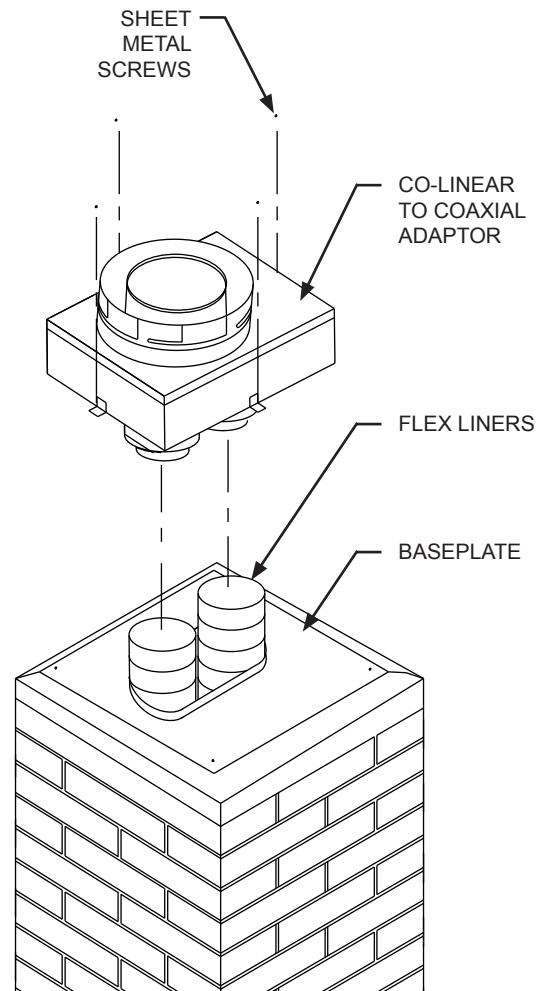

FIG. 6
Step 7. Attach the Flex Liner ends at the top of the chimney to the Co-Linear to Co-Axial Adaptor. Use four sheet metal screws to connect each Flex Liner run to Adaptor. Mount the Adaptor to the Baseplate using sheet metal screws as shown (See FIG. 6).